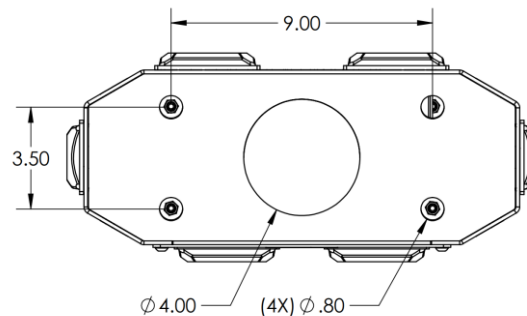

Figure 2 Underside of a tower BLH showing the conduit and mounting holes on the base plate.
The tower BLH requires 120 VAC and consumes 91.4 Watts before the addition of 3rd party devices. The conduit should emerge from the pad so it can pass through the central hole of the base plate (see Figure 2).
A. Pour concrete around L-bolts that match the base plate pattern (see Figure 2). The concrete block should have at least a 36-inch diameter and a 36-inch depth. See *L-Bolt-625* on the Pedestal PRO website.
B. Install wedge anchors into existing concrete to match the base plate pattern (see Figure 2). The concrete block should have at least a 36-inch diameter and a 36-inch depth. See *Stud-Anchor-625* on the Pedestal PRO website.
- Lift the tower and place it on the pad with the conduit passing through the central hole and the studs passing through the mounting holes in the base plate (see Figure 2).